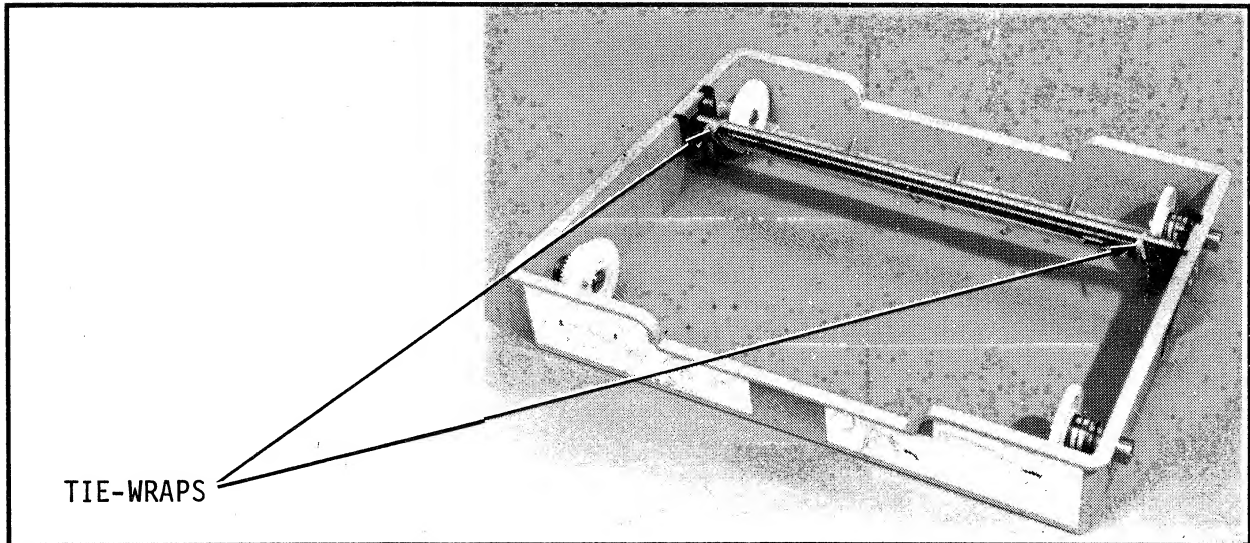

Figure 2-3. Unpacking the Ink Donor Roll Tray
9. Locate the ink donor roll tray. Cut and remove the two tie-wraps as shown in Figure 2-3.